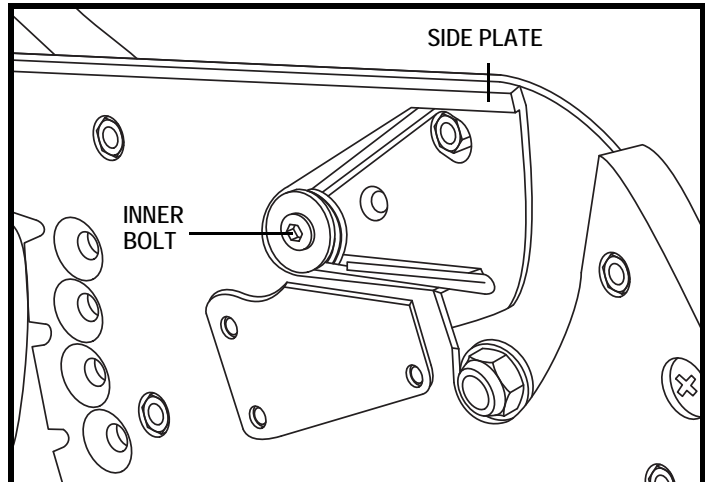

Figure 37. Extension Force Spring located in the Seat Base Side Plate (Kids FAST)
4. Using two 1/8-in. hex wrenches, hold the spring securement bolt on the outside of the seat base and turn inner bolt counterclockwise. Remove bolt and washer. See figures 37 and 38.